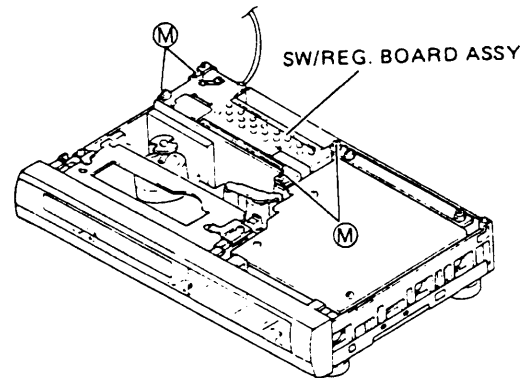

Fig. 1-1-12
2. Refer to Fig. 1-1-12 and take out 4 screws (M) from the switching regulator board assembly.